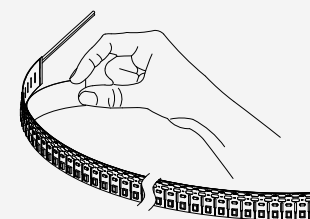

Figure 3
Step 1 Confirm the curved mounting surface, then peel off the protective liner of the double-sided tape on the back of the LED strip, as shown in Figure 3